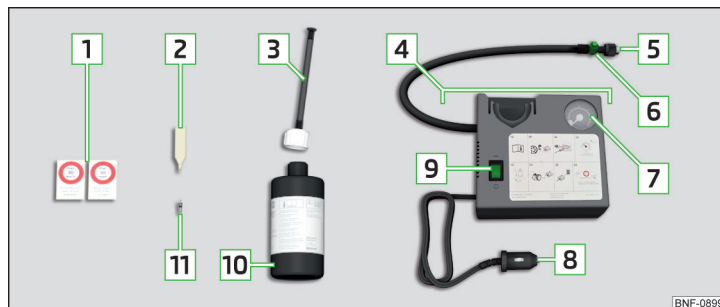

Fig. 277 Description of the breakdown kit
- › Attach the valve remover  » Fig. 277 on page 225 onto the valve insert, so that the valve insert fits into the slot of the valve remover.
- › Screw the air compressor tyre inflation hose  » Fig. 277 on page 225 firmly onto the tyre valve.